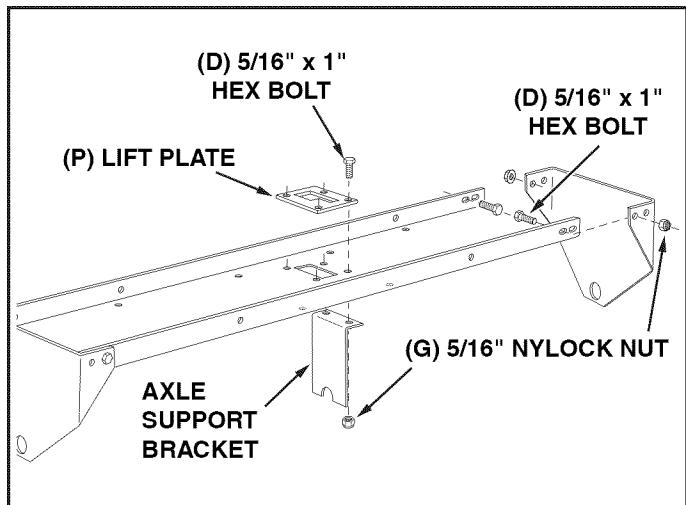

FIGURE 1
1. Assemble the end plates to the **inside** slots at each end of the tray using two 5/16" x 1" hex bolts (D) and 5/16" nylock nuts (G) per end plate. **Do not tighten yet.** See figure 1.
2. Assemble the lift plate (S) and the axle support bracket to the tray using four 5/16" x 1" hex bolts (D) and 5/16" nylock nuts (G). **Do not tighten yet.** See figure 1.
13. Square up the axle support bracket with the tray. **Tighten** the four bolts and nuts assembled in figure 1 that fasten the axle support bracket and lift plate to the center of the tray.